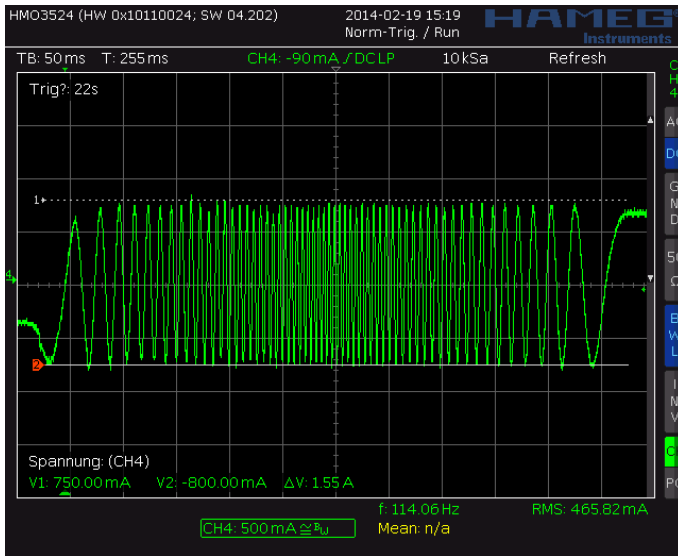
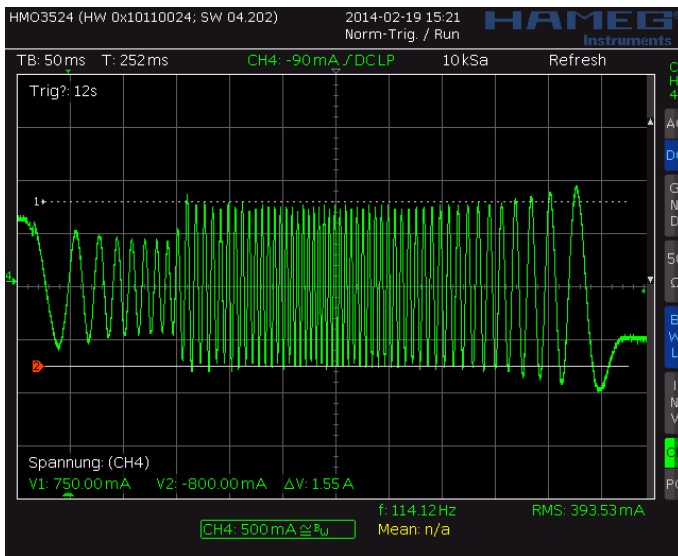
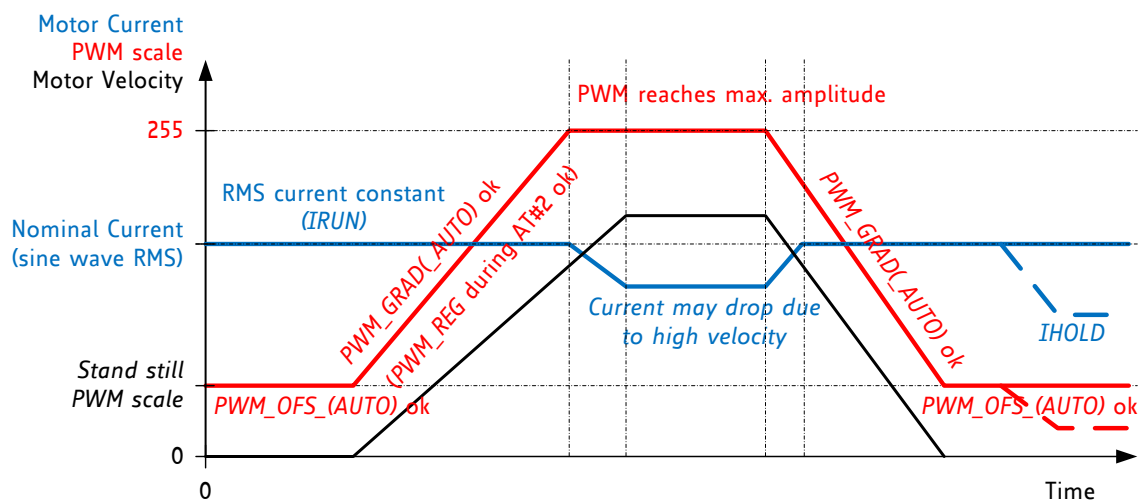

Figure 6.3 Scope shot: good setting for PWM\_REG
Figure 6.4 Scope shot: too small setting for PWM\_REG during AT#2
Figure 6.5 Successfully determined PWM\_GRAD(AUTO) and PWM\_OFS(AUTO)
In StealthChop voltage PWM mode, the autoscaling function ( $pwm\_autoscale = 1$ ,  $pwm\_autograd = 1$ ) regulates the motor current to the desired current setting. Automatic scaling is used as part of the automatic tuning process (AT), and for subsequent tracking of changes within the motor parameters. The driver measures the motor current during the chopper on time and uses a proportional regulator to regulate  $PWM\_SCALE\_AUTO$  in order match the motor current to the target current.  $PWM\_REG$  is the proportionality coefficient for this regulator. Basically, the proportionality coefficient should be as small as possible in order to get a stable and soft regulation behavior, but it must be large enough to allow the driver to quickly react to changes caused by variation of the motor target current (e.g. change of  $VREF$ ). During initial tuning step AT#2,  $PWM\_REG$  also compensates for the change of motor velocity. Therefore, a high acceleration during AT#2 will require a higher setting of  $PWM\_REG$ . With careful selection of homing velocity and acceleration, a minimum setting of the regulation gradient often is sufficient ( $PWM\_REG=1$ ).  $PWM\_REG$  setting should be optimized for the fastest required acceleration and deceleration ramp (compare Figure 6.3 and Figure 6.4). The quality of the setting  $PWM\_REG$  in phase AT#2 and the finished automatic tuning procedure (or non-automatic settings for  $PWM\_OFS$  and  $PWM\_GRAD$ ) can be examined when monitoring motor current during an acceleration phase Figure 6.5.